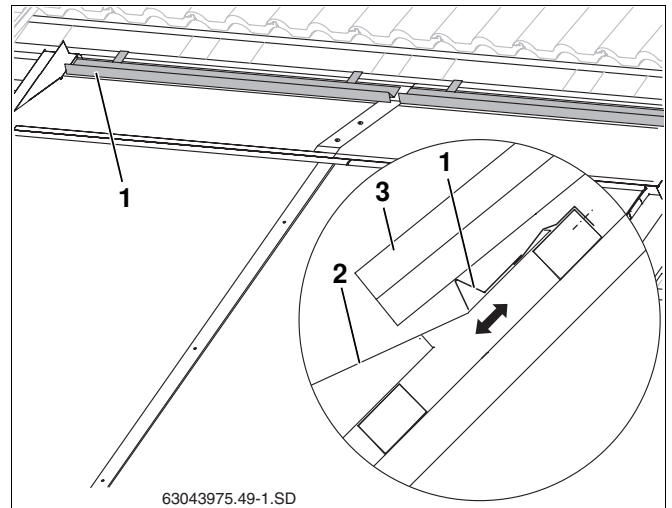

Fig. 61 Laying and securing the pan tile overlay
- it covers the facing collector (Fig. 61, **Item 2**) as much as possible, but does not come into contact with it, and
- Place the pan tile overlay (Fig. 61, **Item 1**) according to the calculated position and fasten to the roof batten.
- Lay the cut pan tiles (Fig. 61, **Item 3**).